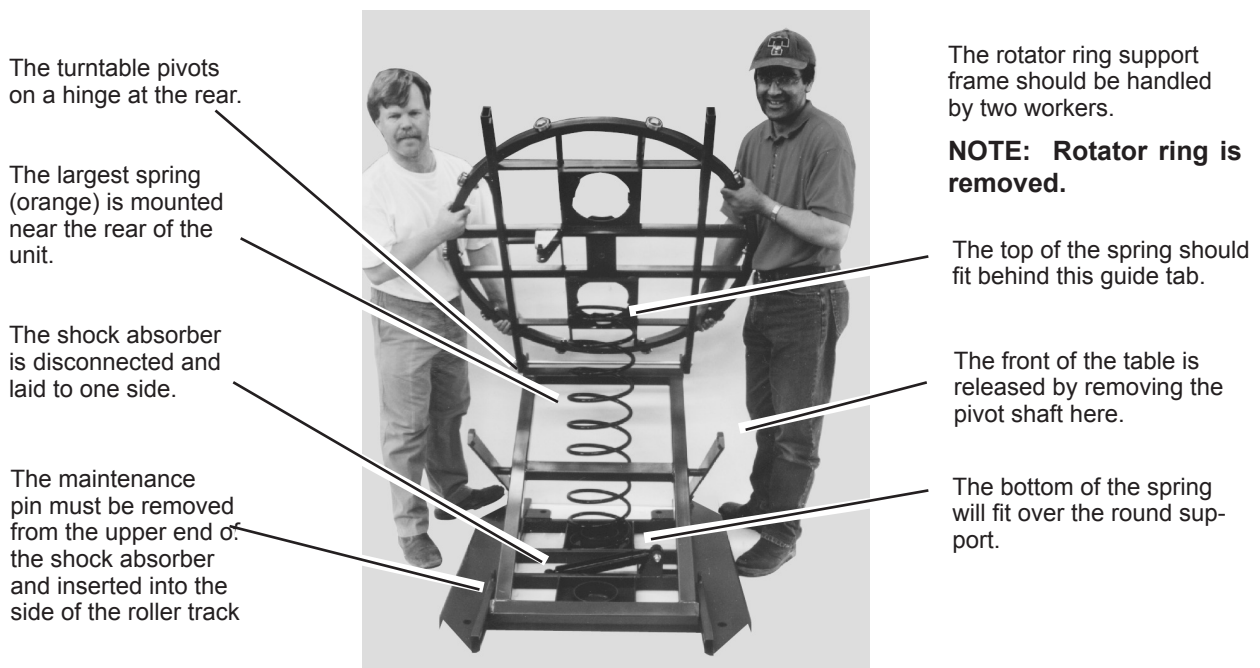

Fig. 3 Inserting the First Spring
6. With the help of an assistant, lift the top part of the frame as far as it will go. Insert the maintenance pin into the lower roller guide. See Fig. 3.
8. Tilt the top frame assembly back as shown in Fig. 3. Begin by mounting the largest spring (orange mark). This spring should be placed in the back of the unit, nearest the hinge. It does not matter which end of the spring is up. The bottom of the spring should fit over the round support on the base frame. The top should fit behind the small guide tab shown in Fig. 3. Once the spring is in place, slowly lower the table top mechanism. Check each end of the spring to be sure it has seated correctly.